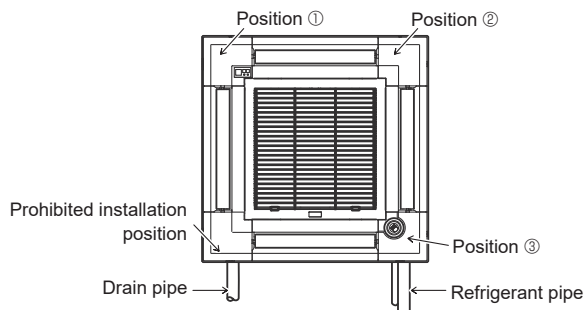

Fig. 9-10
- The i-see Sensor corner panel should be fixed onto the grille ① with screw ③.
- * If the position of the i-see Sensor was changed from default position (Position ③) to the other position, change the function settings. (Refer to page 14 and Fig. 9-10)
- The i-see Sensor corner panel can not installed on the drain pipe side for the main unit. (Refer to Fig. 9-10)